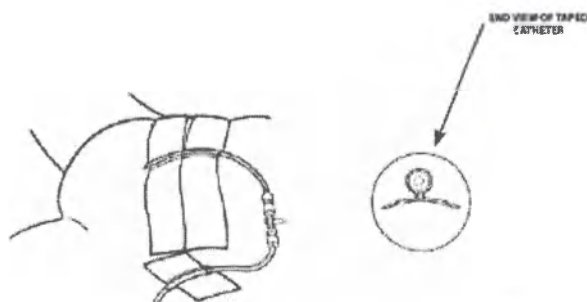

Fig. 2
15. Secure the connecting tube to the abdomen in a gentle curve with tape (Fig. 2).